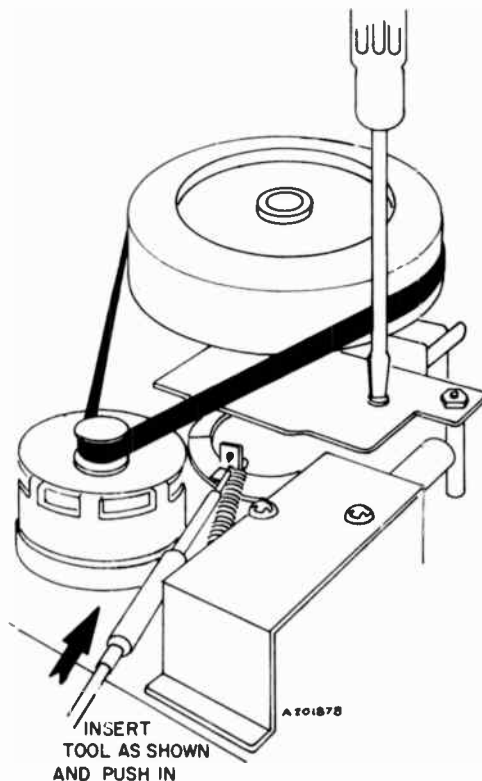

Fig. 1
NOTE: Driving Pawl Assy. (20) must be moved out of contact with selector Cam (13) to adjust head height correctly (See Fig. 1 at right).
5. Adjust cross talk (head height) adjustment screw (18) for a null on VTVM while monitoring with oscilloscope. Out of phase 1 kHz tones are on each side of correct adjustment. Null indicates precise head height.